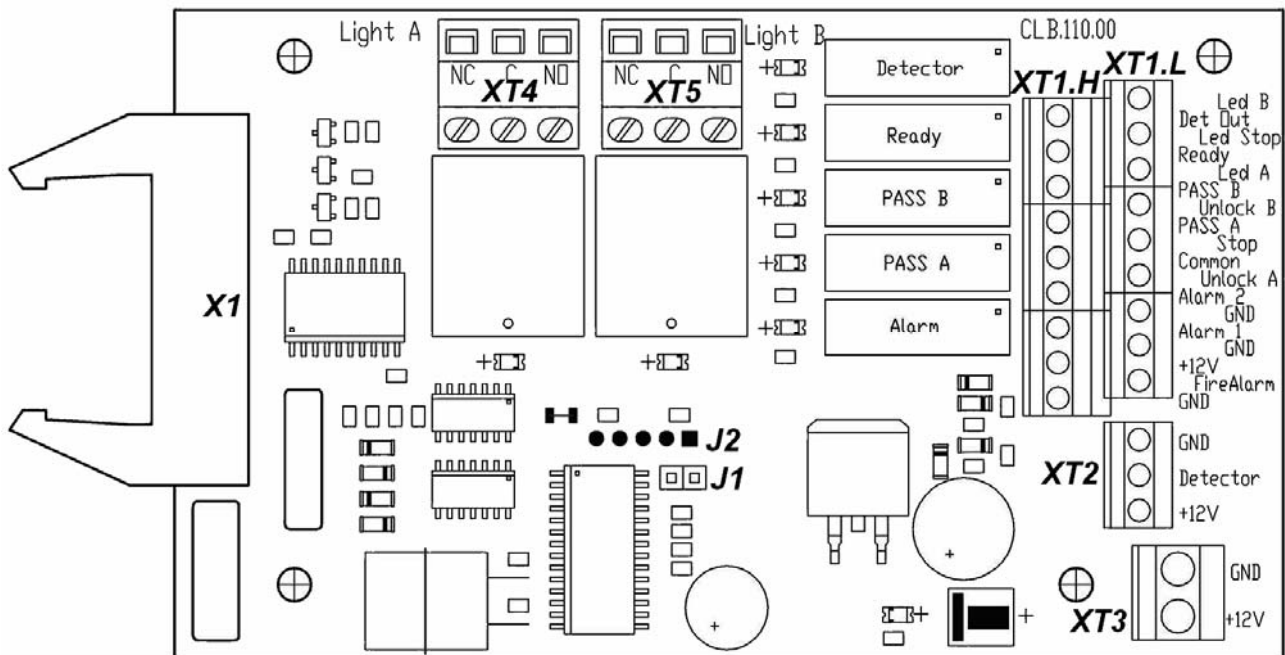
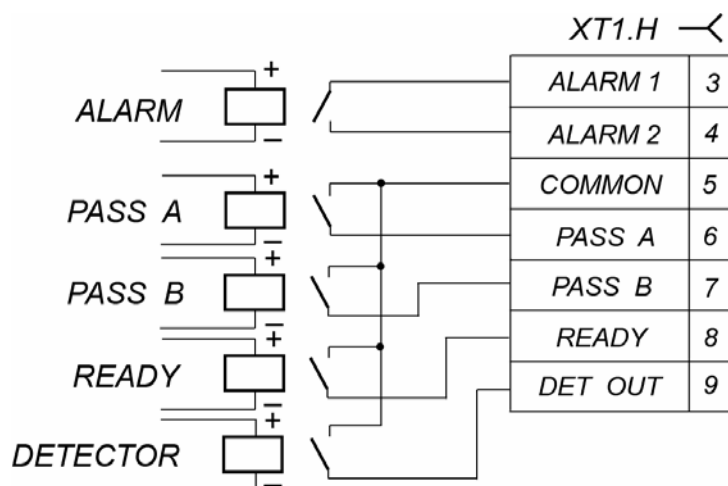
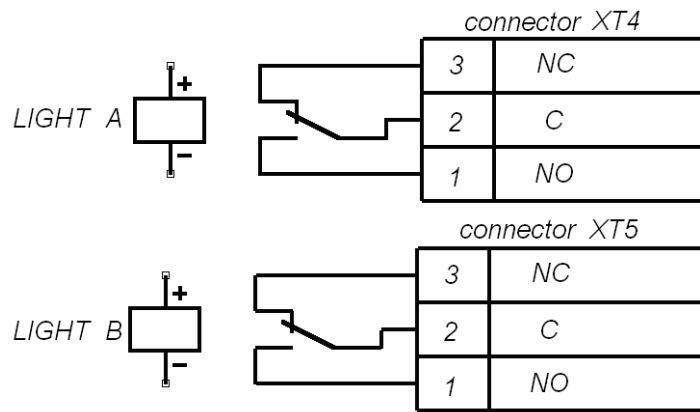

Figure 5. Control Logic Board (CLB)
Figure 8. Output cascades for PASS A, PASS B, Ready, Det Out and Alarm
Figure 9. Output cascades for Light A and Light B
The RC panel is connected to the CLB with a multicore cable (11) via the **XT1.L** connector block (See Fig. 5 and Fig. 12).
If the turnstile orientation relatively to the operator's terminal is not standard (e.g. the terminal is placed at the backside of the turnstile housing), the RC panel orientation towards the turnstile can be changed by exchanging places of the RC wires to the contacts *Unlock A* and *Unlock B* as well as contacts *Led A* and *Led B* accordingly (see Fig. 5 and Fig. 12).
The CLB (Fig. 5) contains:
Connection of the devices is made with the cable (11) to the corresponding connector blocks **XT1.L** or **XT1.H** of the CLB in accordance with the connection layout (Fig. 5 and Fig. 12).
Pin assignments of the CLB connector blocks are given in Fig.5 and on a label located on the inner surface of turnstile cover (2) with LED indication display.
The relays **PASS A** (contacts *PASS A* and *Common*), **PASS B** (contacts *PASS B* and *Common*), **Ready** (contacts *Ready* and *Common*), **Detector** (contacts *Det Out* and *Common*) and **Alarm** (contacts *Alarm 1* and *Alarm 2*) have normally open contacts. The *Common* contact, at that, is not connected to the CLB power supply negative terminal. In the initial (inactive) state, when the power is on, the relay contacts *PASS A*, *PASS B*, *Ready* and *Detector* are closed (voltage is supplied to the relay coil) and the *Alarm* relay contacts are broken (voltage is not supplied to the relay coil). The CLB relay operation / release is indicated by lighting up/going down of the red test indicators located near the corresponding relays (Fig. 5). The output cascades for *PASS A*, *PASS B*, *Ready*, *Det Out* and *Alarm* are the contacts with the following signal characteristics (Fig. 8):
The control mode is set by the jumper on the **J1** connector (the **J1** connector location is shown on Fig.5 and on a label located on the inner surface of turnstile cover (2): the jumper is fixed — the pulse control mode, the jumper is not fixed – the potential control mode. The jumper is fixed at the factory before the delivery.
The intrusion detector is connected to the **XT2** connector block, and the siren is connected to the **XT1.H** connector block of the CLB according to the connection layout (Fig.5 and 12). There should be normally closed contacts on the intrusion detector.
The intrusion detector status signal is constantly transmitted to the *Det Out* and *Common* contacts of the CLB **XT1.H** connector block (Fig. 5).
The emergency unblocking device is connected to the **XT1.L** connector block of the CLB in accordance with the connection layout (Fig. 5 and 12). If the *Fire Alarm* input is not used, it is necessary to set a jumper between the contacts *Fire Alarm* and *GND*. This jumper is preset at the factory.
The remote indicators are connected to the connector blocks **XT4** (Light A) and **XT5** (Light B). At that the **Light A** (**Light B**) relay is active (the voltage is supplied to the relay coil), when the “Green arrow” pictogram on the LED indication display, corresponding to the set passage direction, lights, and it is passive, when the “Green arrow” pictogram on the Led display does not light. The response/release of the relays **Light A** and **Light B** can be defined according to lighting up/going down of the red indicators, which are installed near the above mentioned relays (Fig. 5). Output cascades for the **Light A** and the **Light B** relays are nonbridging relay contacts (Fig. 9) with the following signal characteristics: